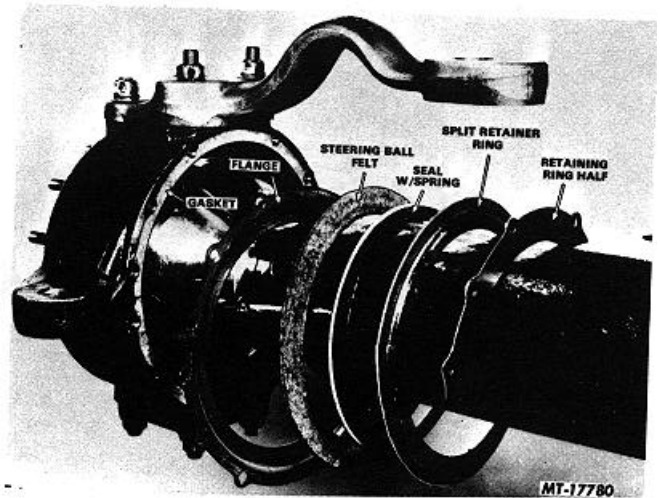

Fig. 4 Trunnion Housing Seals and Retainers
4. Remove retaining ring halves, split ring retainer, seal with spring, steering ball felt, flange and gasket from back side of trunnion housing (Fig. 4).